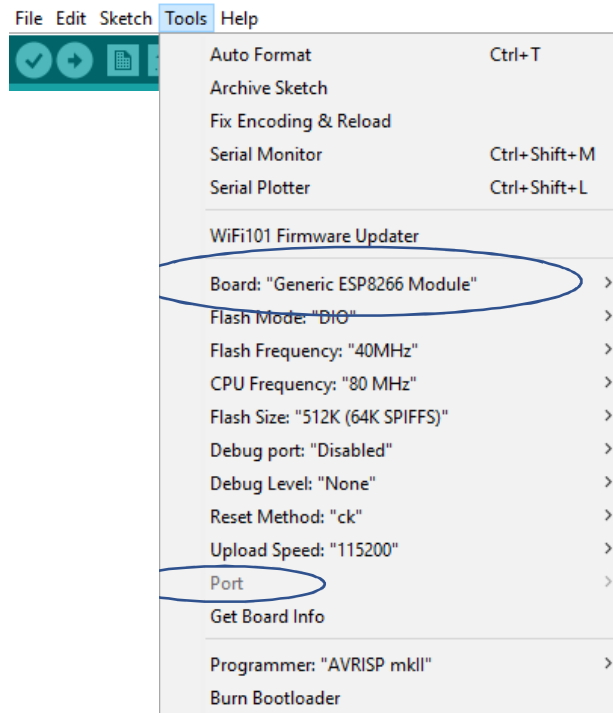

Figure 6: Arduino IDE Board Selection for Flashing the ESP8266-01.
Before uploading the code, select the right board, so that the Arduino IDE will generate the corresponding flash content for the ESP8266-01 module: “Generic ESP8266Module”. Fig. 6 shows the complete set of options automatically defined when the Tools ==> Board: “Generic ESP8266Module” is selected in the Arduino IDE.
Take into account that unlike Fig. 6, the Port should be defined as the port in which the Arduino board is identified by the computer. Once defined the Board and Port, it is possible to upload the Arduino sketch, process that will make to store the program in the ESP8266-01 module flash. If the flash fails, it is recommended to unplug the power source (turn off) of the Arduino board and plug it again, so the Arduino UNO is restarted as well as the ESP8266-01 module. If the upload (flash) fails again, try with a different Upload Speed (115200 has always been used successfully in the experiments reported in this document, though).
- 5) Define the Board (Fig. 6 above) and Port in the Arduino IDE “Tools” menu